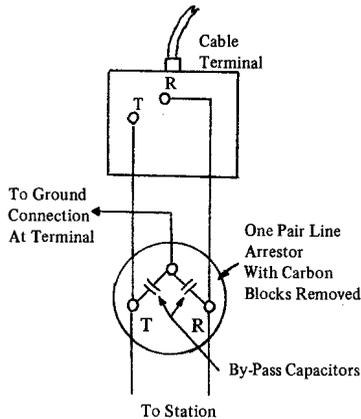

FIGURE 3. Capacitor Installation at Cable Terminal
- 4.04 In some severe cases of RFI, it may be necessary to place bypass capacitors at the serving terminal in addition to those placed within the telephone set or protector. These additional capacitors shall be mounted outside the terminal in a one pair line arrester (either cable or open wire type is acceptable). Mount the arrester as close to the terminal as possible, keeping in mind the need to *avoid climbing area infractions* while maintaining easy access to the cable terminal. Remove carbon blocks before installing capacitors. Carbon blocks are not to be used in this application of the line arrester. Refer to Figure 3 and proceed as follows: